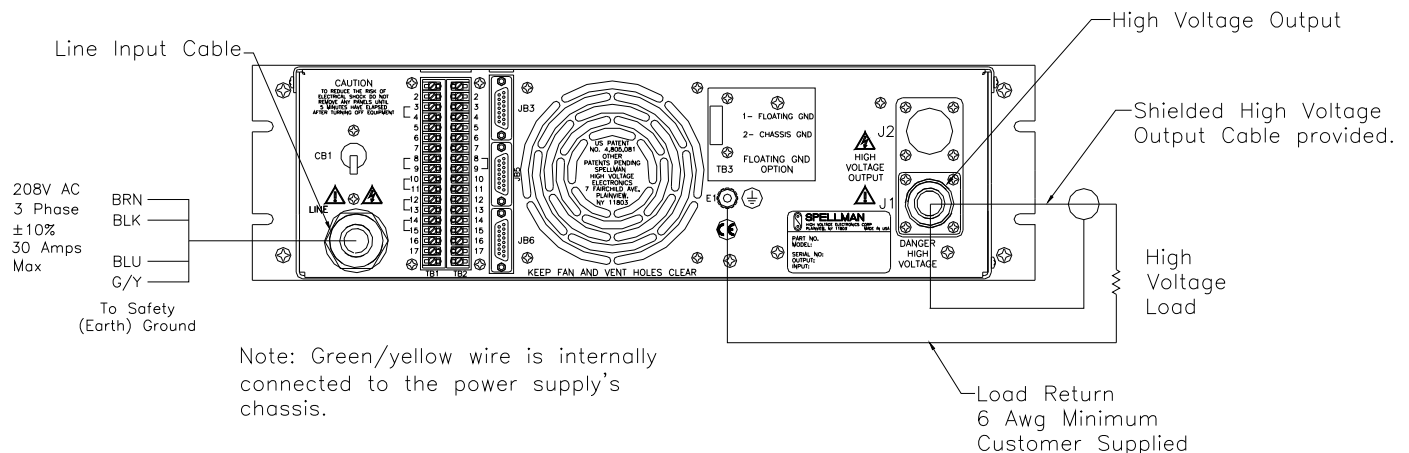

Figure 3.1 Typical Operating Setup
- C) **PROPER GROUNDING TECHNIQUE:** The chassis of high voltage power supplies must be grounded, preferably to a water system ground using copper pipe or other earth ground using the connection terminal at the rear of the unit.. See Figure 3.1 for a typical operating setup.